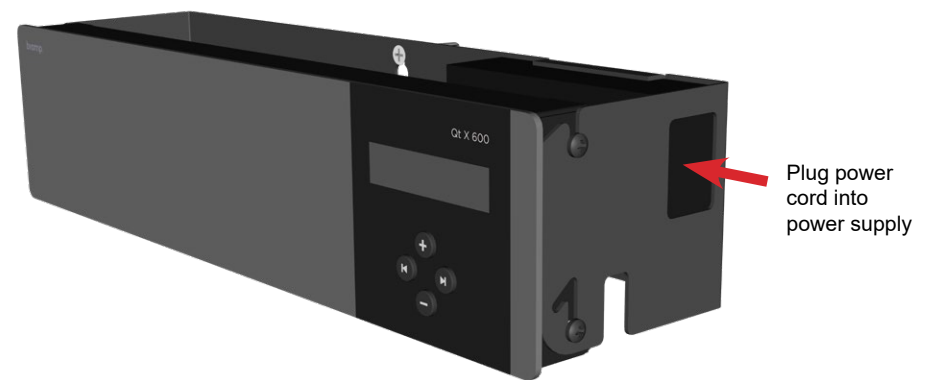

Figure 11. Controller in operating position
- Connect all wiring/cabling as described in the Qt X Installation & Operation Guide. Rotate the Qt X up and move down into the operating position to lock into place. Tighten the side screws to secure it to the bracket (Figure 11).